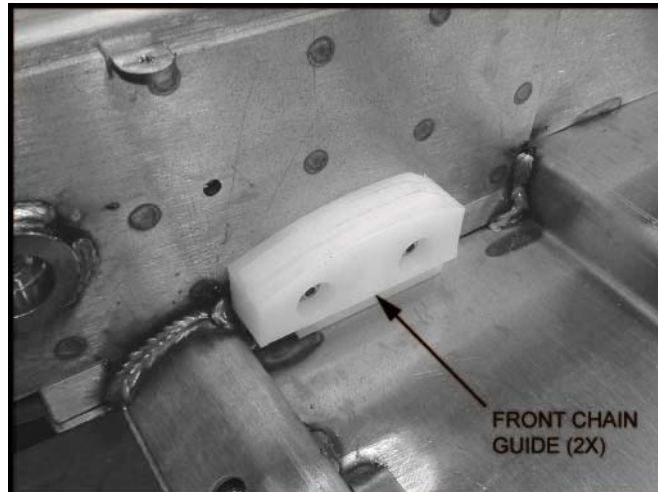

FIGURE 2-9: LH AND RH CHAIN ACTUATOR GUIDE (LH SIDE SHOWN)
- a. Refer to **Figure 2-9**. Replace and install left hand or right hand chain guides as necessary when chain assembly has been removed.